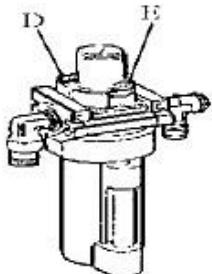

Fig. 14
- Check oil level in oil fog maker, please be filled with SAE30 oil if needed. Unscrew with hex wrench (E). Based on connection of compressed air, first to tread jaws open and close pedal or turntable rotation pedal 5-6 times, and then check whether oil in oil fog maker drops down a drip of oil. For continuous operation, tread twice every time, drop down a drip of oil, otherwise adjust the screw (D) that controlled oil enter with minus screwdriver (fig 14).